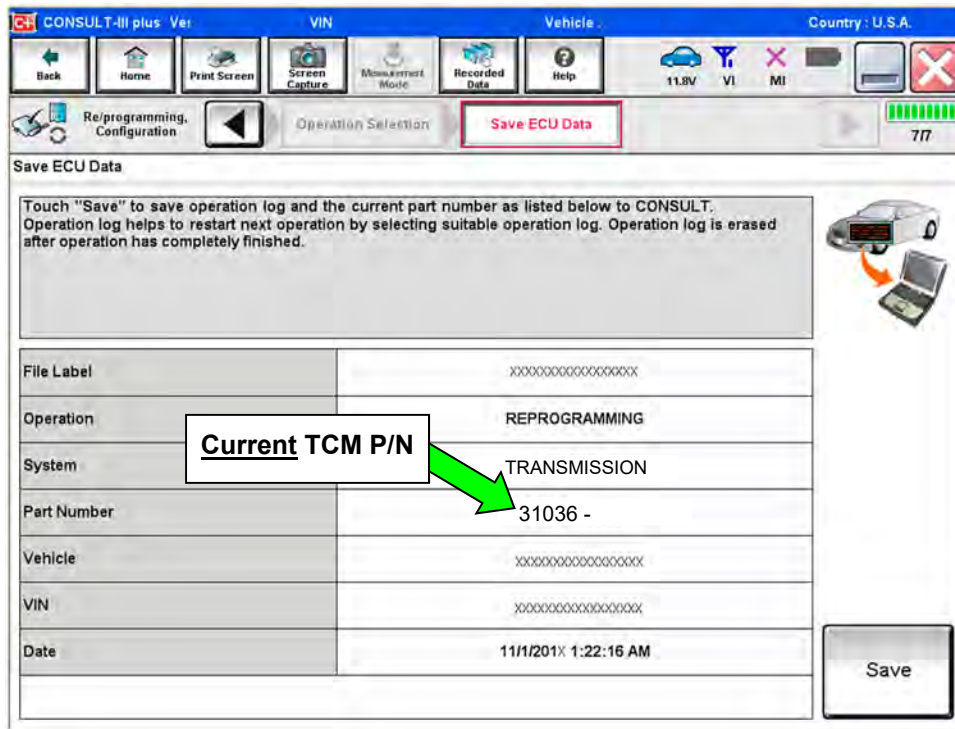

Figure 33
29. Follow the on-screen instructions and navigate the C-III plus to the screen shown in Figure 33 on the next page.
30. When you get to the screen shown in Figure 33, confirm reprogramming applies as follows.